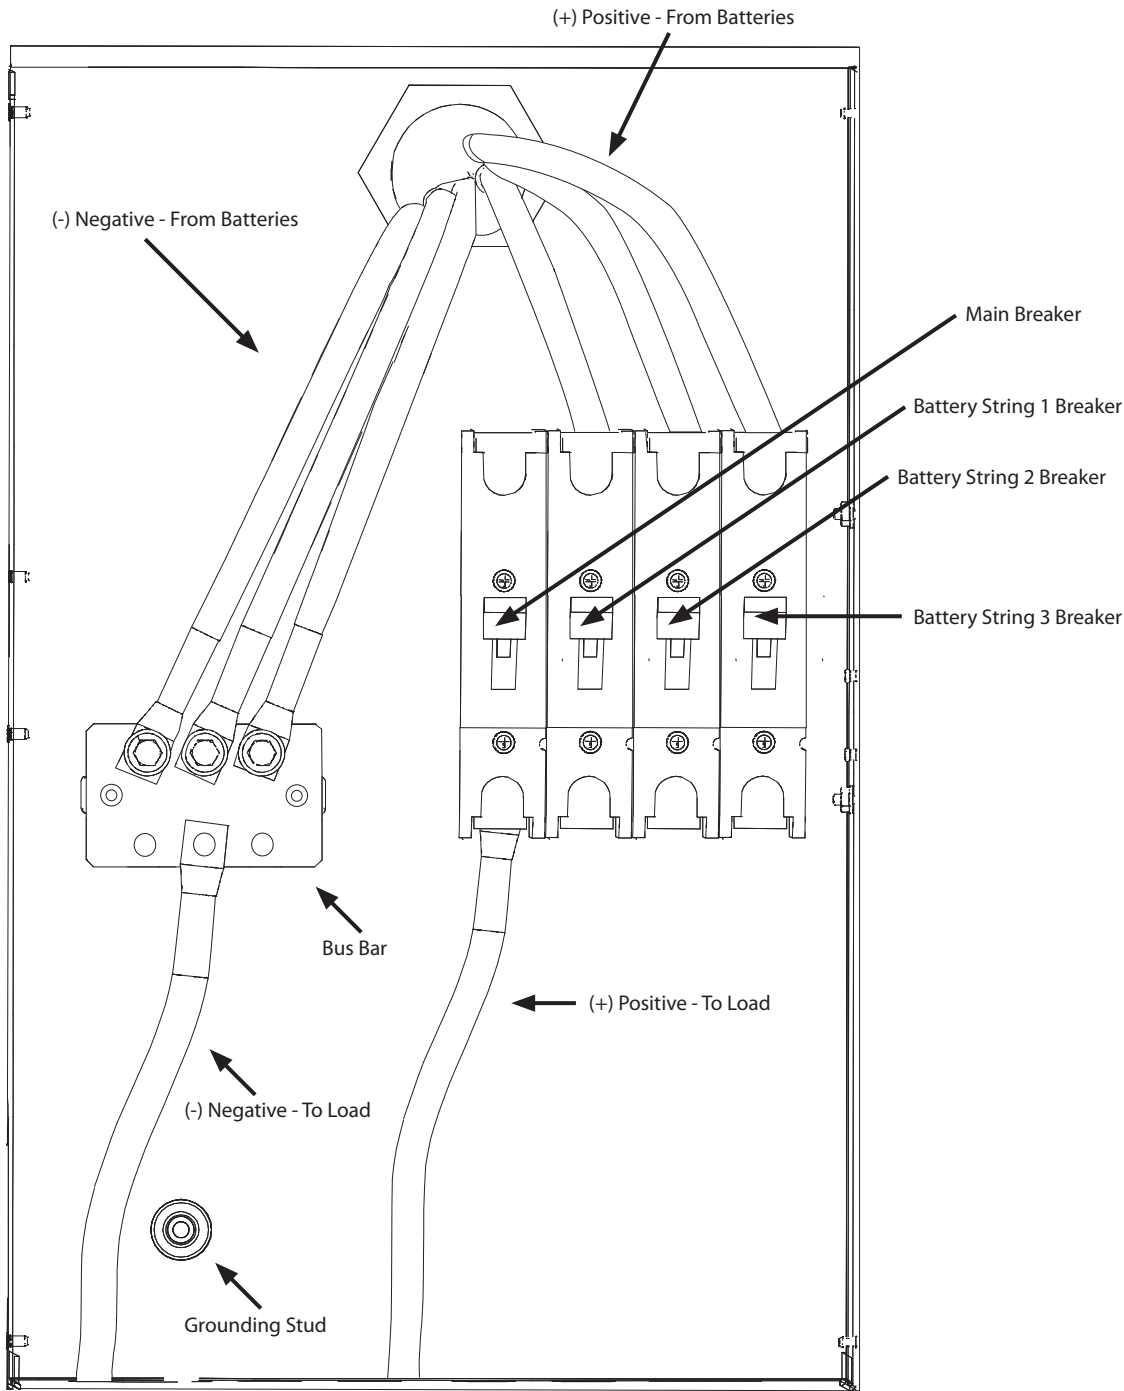

Figure 12, Breaker Box Battery Cable Connections
- 6. Using the positive connection on the leftmost battery, feed the positive end of the battery cable through the hole at the left side of the enclosure into the breaker box. Connect the other end of the positive cable to the end of the first battery breaker lug. See Figure 12.
- 7. Then, feed the negative connection of the leftmost battery through the hole at the left side of the enclosure into the breaker box. Connect the other end of the negative cable to the end of the first bus bar lug. See Figure 12.